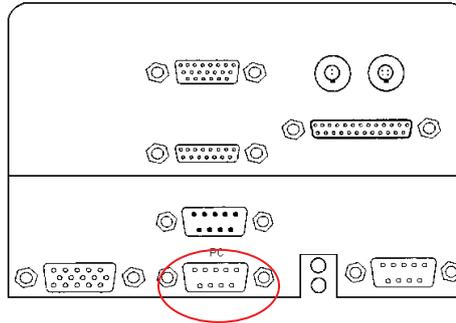

Figure 8 Connecting the PC to the spectrometer
- Ø Connect all electrical supplies from the computer and monitor and connect the PC COM port (usually marked **10101**) to the connector on the right hand side of the spectrometer as shown in Figure 8.